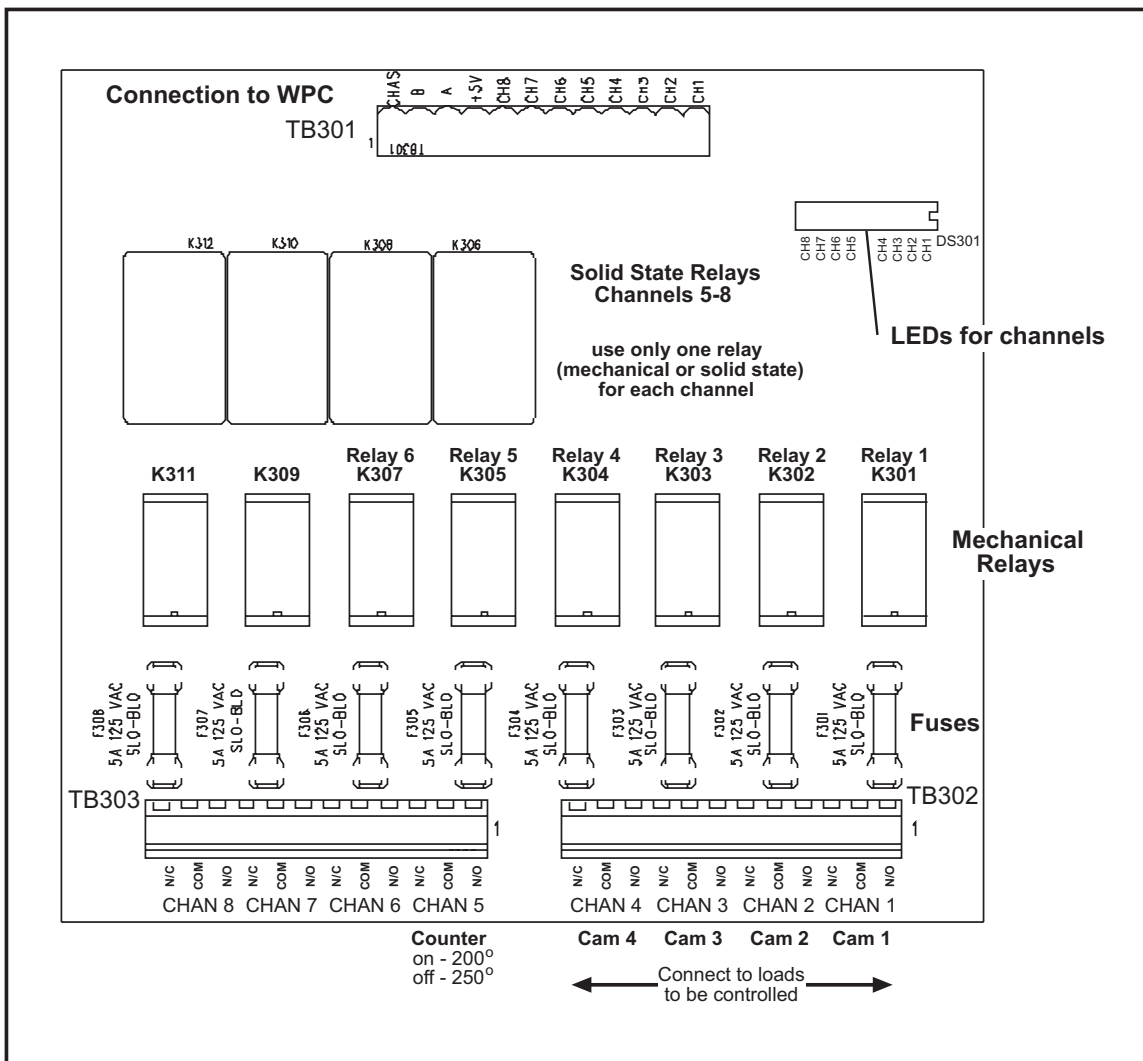

Figure 2-15. Cam outputs board assembly
9. To connect the relays to your equipment, use connector TB302 and TB303. See Fig. 2-15, Pg. 42.